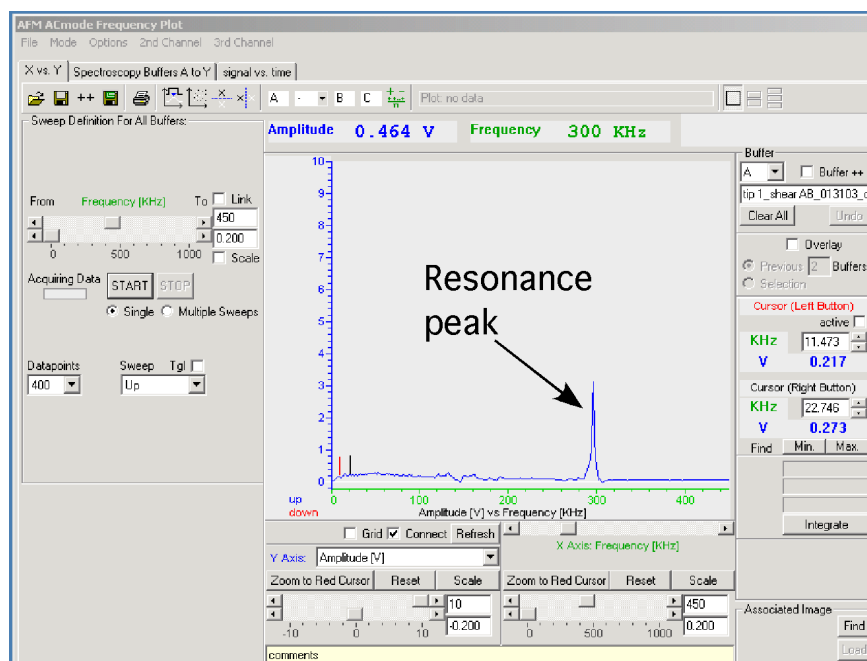

Figure 5.12
- The Resonance peak indicates the resonant frequency of the cantilever (shown in Figure 5.12 below).